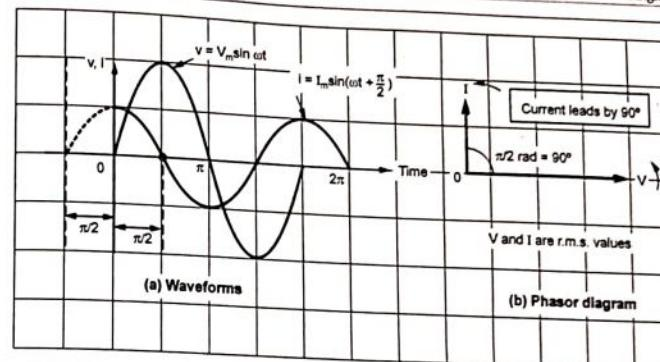

Fig. 3.3.2 A.C. through purely capacitive circuit
- The Fig. 3.3.2 shows waveforms of voltage and current and the corresponding phasor diagram.